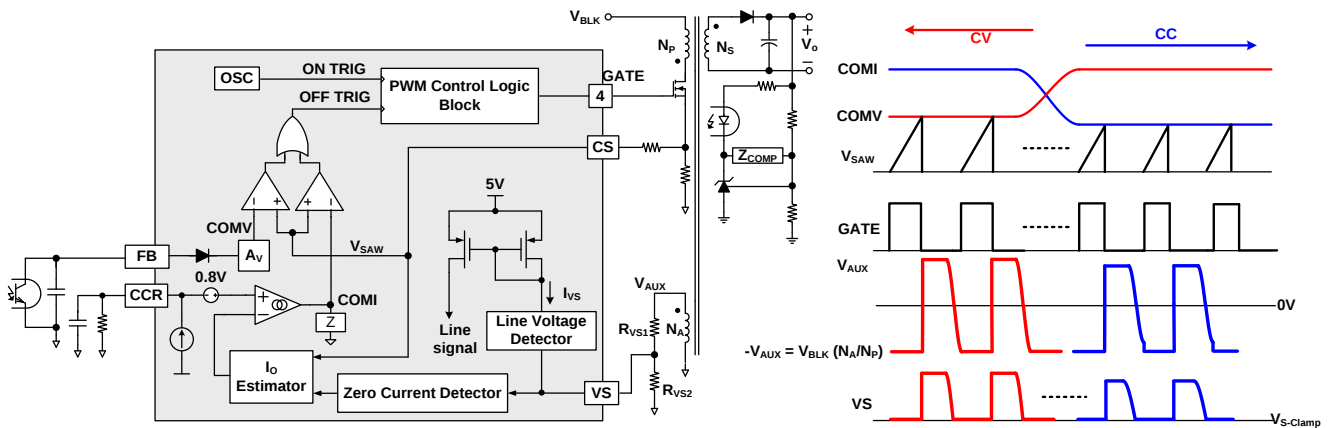

Figure 27 Simplified PWM Control Circuit and PWM Operation for CV/CC Regulation
The FAN604H indirectly senses the line voltage through the VS pin while the MOSFET is turned on, as illustrated in Figure 27. MOSFET turn-on period, the auxiliary winding voltage, V_{AUX} , is proportional to the input bulk capacitor voltage, V_{BLK} , due to the transformer coupling between the primary and auxiliary windings. During the MOSFET conduction time, the line voltage detector clamps the VS pin voltage to $V_{S-Clamp}$ (0 V), and then the current I_{VS} flowing out of VS pin is expressed as:
Figure 27 shows a simplified CV / CC PWM control circuit of the FAN604H. The Constant Voltage (CV) regulation is implemented in the same manner as the conventional isolated power supply, where the output voltage is sensed using a voltage divider and compared with the internal reference of the shunt regulator to generate a compensation signal. The compensation signal is transferred to the primary side through an opto-coupler and scaled down by attenuator A_V to generate a COMV signal. This COMV signal is applied to the PWM comparator to determine the duty cycle.
These two control signals, COMV and COMI, are compared with an internal sawtooth waveform (V_{SAW}) by two PWM comparators to determine the duty cycle. Figure 27 illustrates the outputs of two comparators, combined with an OR gate, to determine the MOSFET turn-off instant. Either of COMV or COMI, the lower signal determines the duty cycle. During CV regulation, COMV determines the duty cycle while COMI is saturated to HIGH level. During CC regulation, COMI determines the duty cycle while COMV is saturated to HIGH level.
Where L_m is the transformer's primary side magnetizing inductance. Since the output current error is proportional to the line voltage, the FAN604H incorporates line voltage compensation to improve output current estimation accuracy. Line information is obtained through the line voltage detector as shown in Figure 27. I_{COMP} is an internal current source, which is proportional to line voltage. The line compensation gain is programmed by using CS pin series resistor, R_{CS_COMP}, depending on the MOSFET turn-off delay, t_{OFF_DLY}. I_{COMP} creates a voltage drop, V_{OFFSET}, across R_{CS_COMP}. This line compensation offset is proportional to the DC link capacitor voltage, V_{BLK}, and turn-off delay, t_{OFF_DLY}. Figure 29 demonstrates the effect of the line compensation.